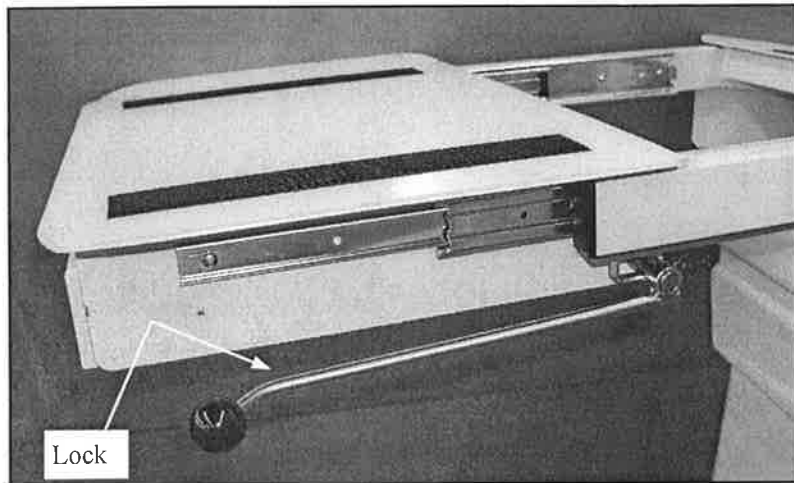

Figure 1
- 2) Extend the footrest entirely, (Figure 1).